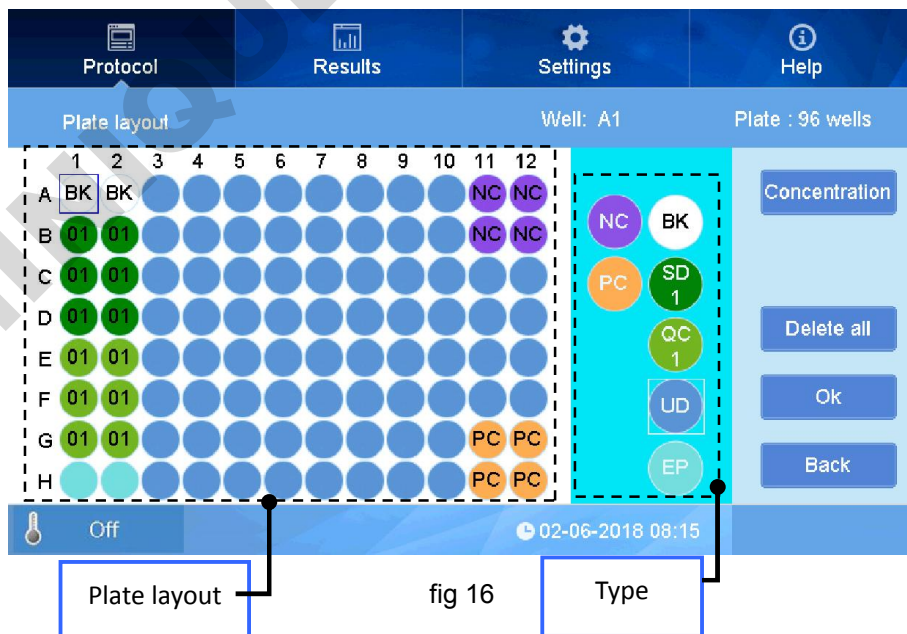

fig 16
- In interface "protocol", "Plate layout" interface appears by pressing button right beside it, at the right side there are some buttons " Concentration", "Delete all", "OK", "Back", as Fig 16.